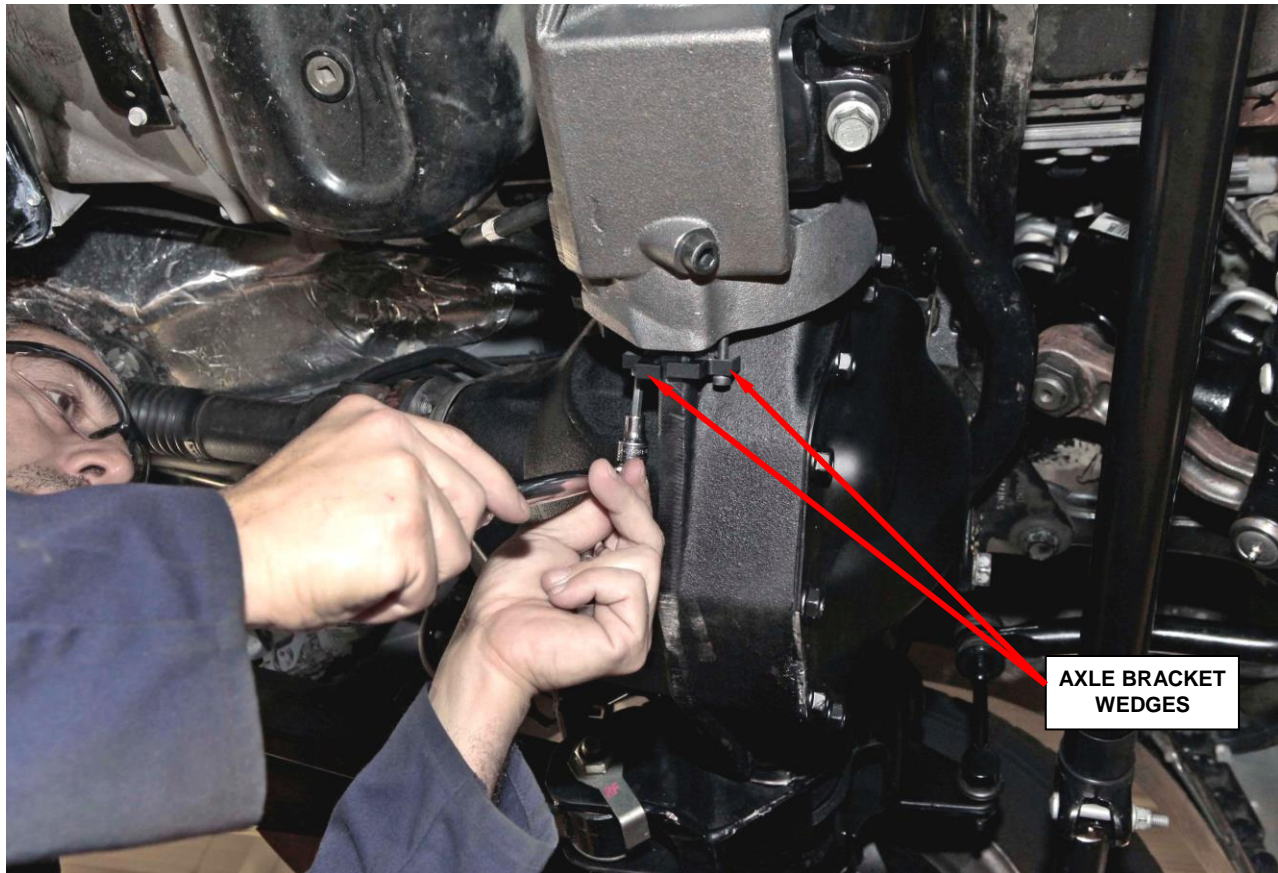

Figure 18 – Tighten Wedge Fasteners
m. Tighten the three axle bracket wedge fasteners to 88 in. lbs. (10 N·m) (Figure 18).